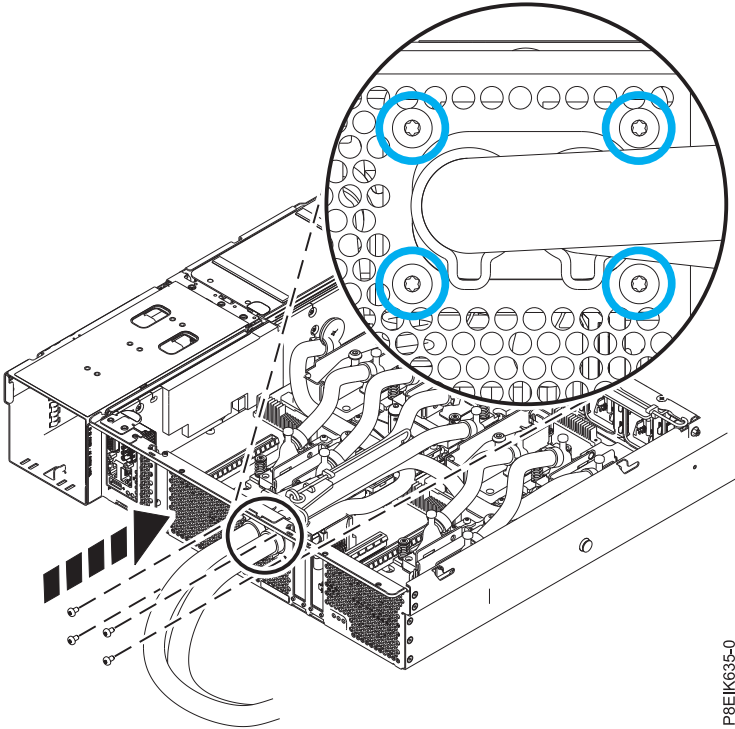

Figure 45. Replacing the rear water hose screws
9. Replace the four screws that secure the water hoses to the rear of the system as shown in Figure 45.